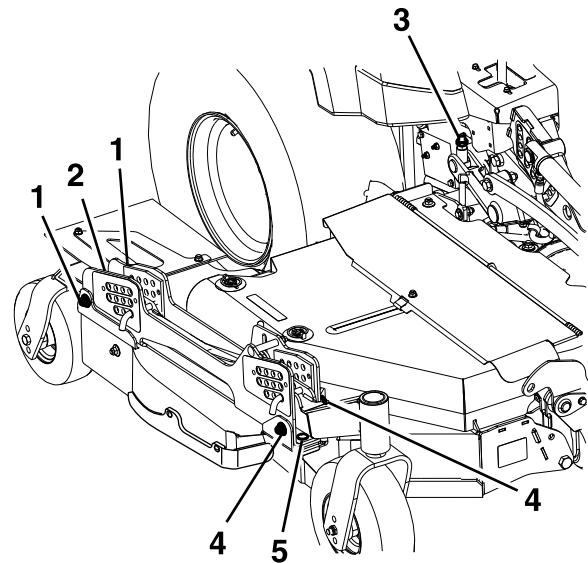

Figure 64
3. The left and right wing decks have blade height adjustments with front and rear adjust points. To adjust the wing blade height, first loosen the front and rear height of cut hanger mounting nuts. There are four locations — two on each side of the channel (see Figure 64).
- If the deck is too low, tighten the front height adjustment bolt (item 5, Figure 64) by rotating the bottom nut clockwise.
- If the deck is too high, loosen the front height adjustment bolt (item 5, Figure 64) by rotating the bottom nut counterclockwise. Fine tune the rear adjusters as required.
Adjust the rear wheel height (item 2, Figure 64) so that the rear wheel lightly touches the ground with minimal pressure.
4. Measure the back of the wing blades. If either has less than 1/16 inch (1.5 mm) rake, raise the back of the deck by tightening the LH and RH rear adjustments (item 3, Figure 64) until all four blades have a minimum of 1/16 inch rake (1.5 mm). Readjust the wing rear wheels so they lightly touch the ground with minimal pressure. Tighten all four rear hanger mount points (item 1, Figure 64).